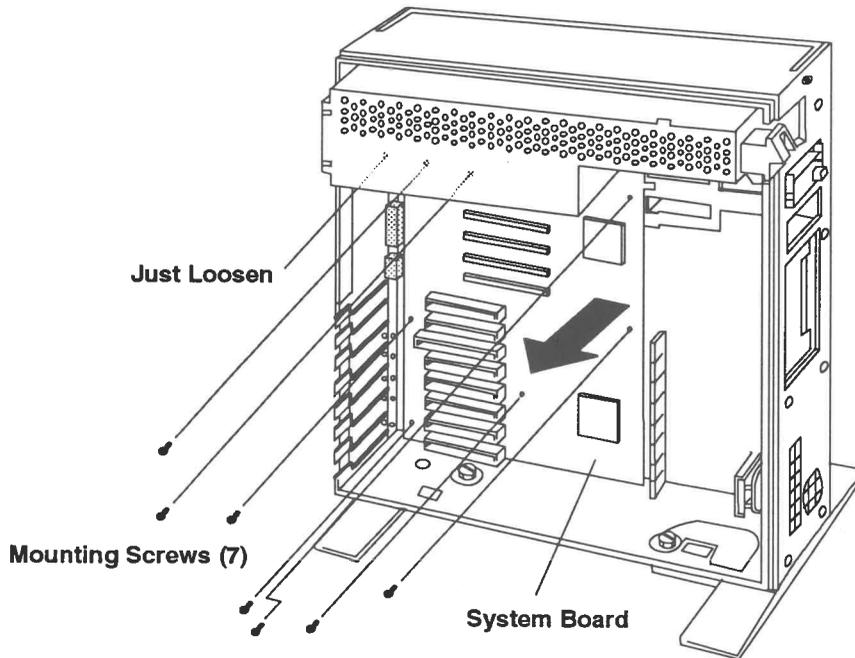

Figure 2-9 System Board Mounting Screw Locations
12. Remove the seven screws that fasten the original system board to the chassis (see Figure 2-9). Save the screws to mount the new Reply system board later.
13. Loosen the screw that fastens the original system board EMI shield to the chassis (see Figure 2-9).
3. Slide the Reply system board into the chassis so the mounting bracket incorporated onto the EMI shield slides into position beneath the screw still mounted in the chassis (see Figure 2-9).
4. Hand-tightening only, fasten the Reply system board to the chassis using the seven mounting screws (see Figure 2-9).